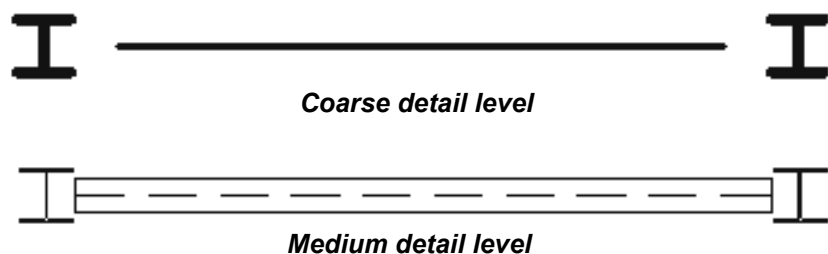

Figure 7–25
- The Location Line can be used as a visual reference, as shown in Figure 7–26. In the Visibility/Graphics dialog box, in the *Model Categories* tab, expand **Structural Framing** and select **Location Line**.